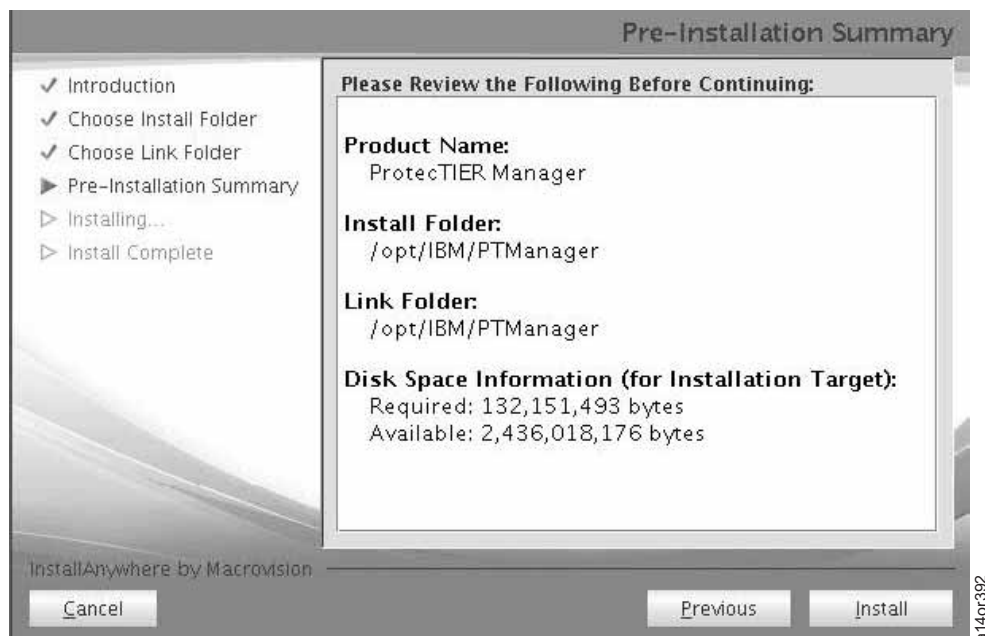

Figure 2-81. Pre-Installation Summary Screen
5. You see Figure 2-81. This screen shows you where the ProtecTIER GUI Manager software will be installed.